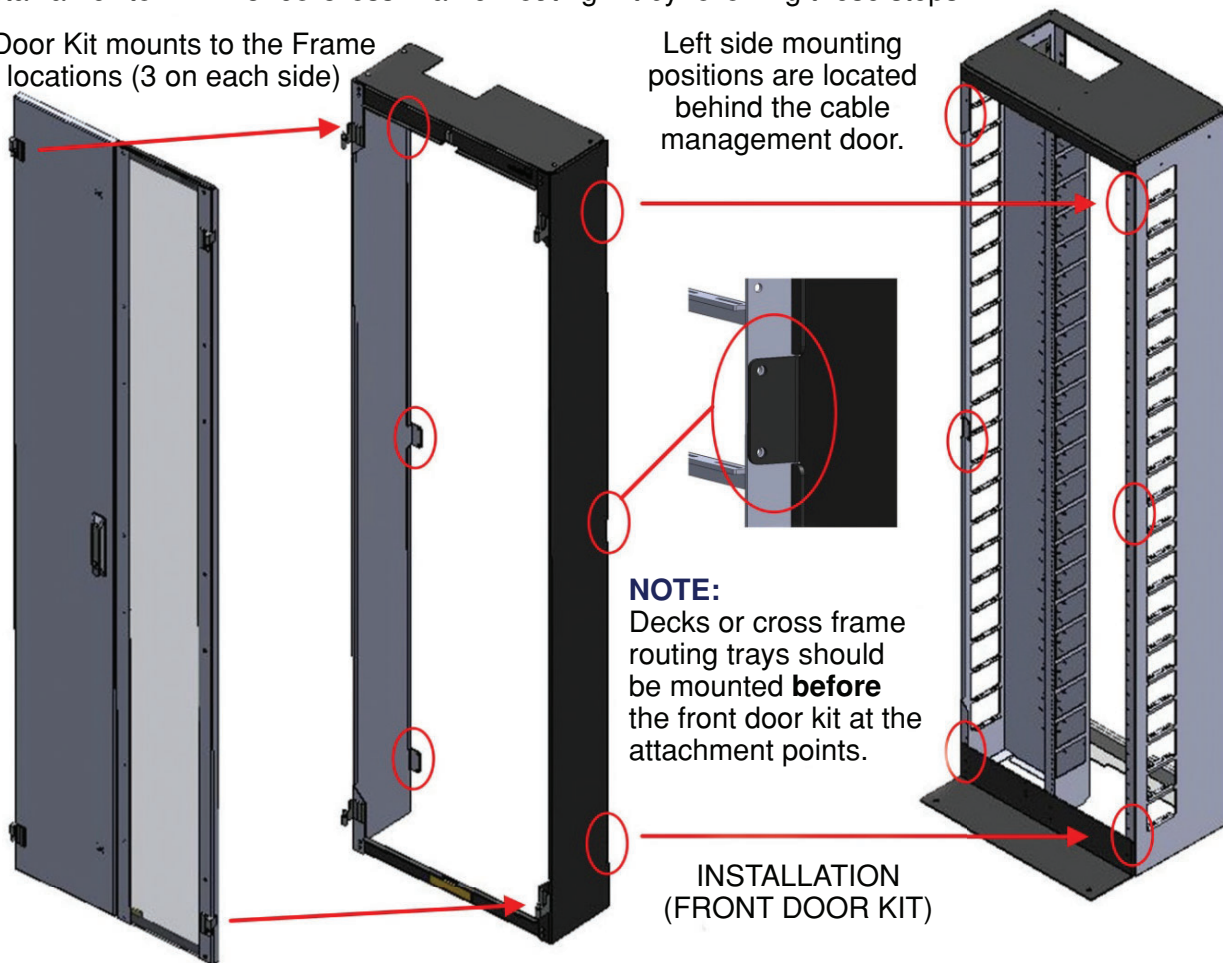

Figure 33
- 8.5 Mount the Front Kit to the HDF 3168 Frame using the provided #12/24 screws (2 each at 3 locations: top, center and bottom on the left side of the frame and at deck positions 0, 10 and 21 on the right side of the frame) as shown in Figure 33.
- 8.7 Place the right and left doors onto the door hinge posts (Figure 33).